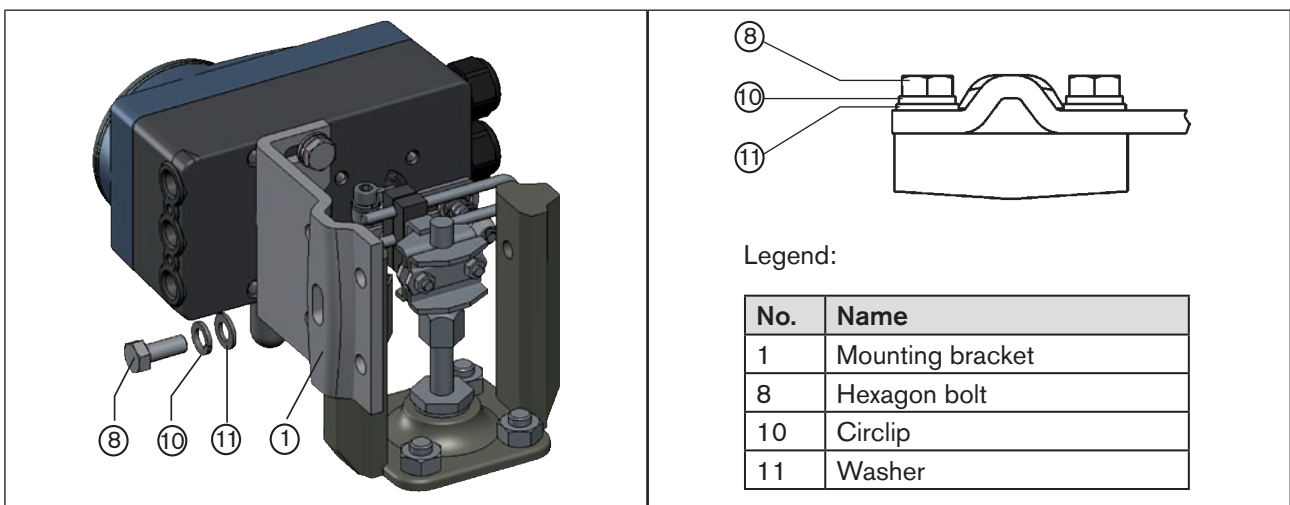

Figure 17: Attach Type 8792/8793 with mounting bracket; for actuators with cast frame
→ Attach mounting bracket to the cast frame with one or more hexagon bolts ⑧, washers ⑪ and circlips ⑩ (see “Figure 17”).